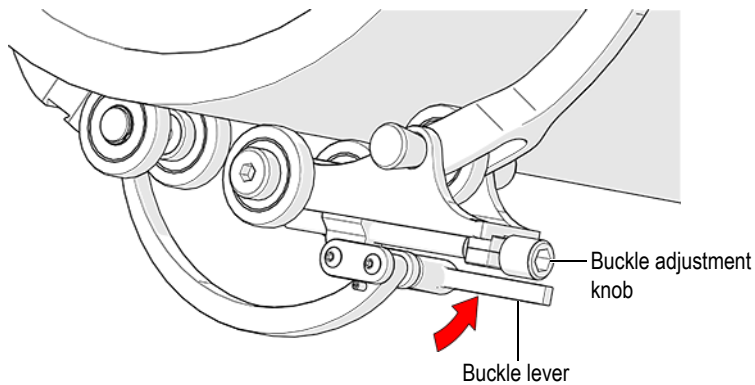

Figure 2-7 Locking the buckle in place
12. Rotate the buckle adjustment knob until you can push the buckle lever down and lock the buckle in place (see Figure 2-7 on page 37).